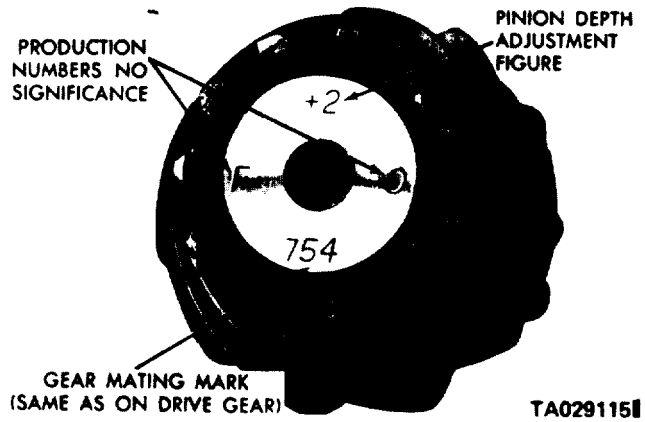

Figure 20-17. Drive Pinion Markings.
(5) To select a shim pack, read the markings on the end of the pinion head as shown in figure 20-17. One number is found on both the drive pinion and the ring, which indicates a matched gear set. Directly opposite this number will be one with a "+" or "-" before it, or the number will be "0." This number must be positively identified before continuing the assembly procedure. Midway between the two sets of numbers described above are numbers and letters which are etched for manufacturing purposes only. But as one of these numbers may be "0," it might be confused with the number needed for the assembly procedure. A rule to follow would be to first examine the shaft end for a positive or negative number. If a positive or negative number is not etched on the pinion head, then the number will be zero (see table 19-1).